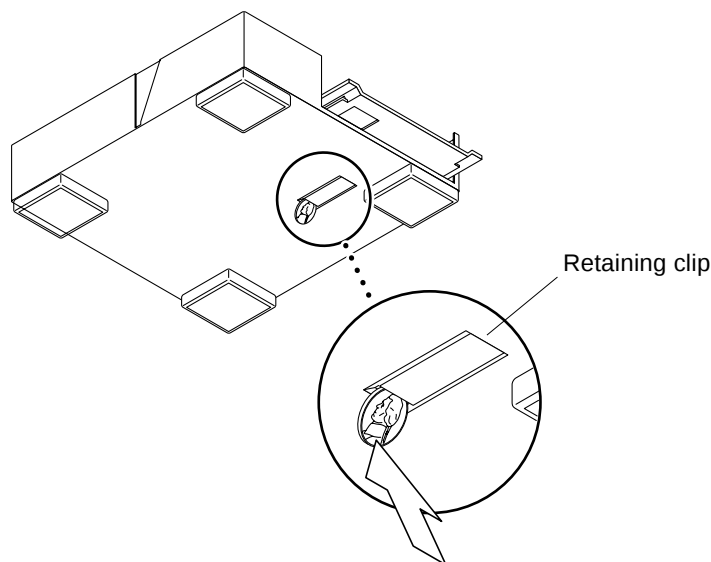

Figure 2-6 Disengaging the Retaining Clip
3. **Disengage the retaining clip on the bottom of the DDP by reaching under the DDP and pulling down on the clip to clear it from the mounting plate.** You can use a coin to pull down the clip so you can slide out the mounting plate. See Figure 2-6.